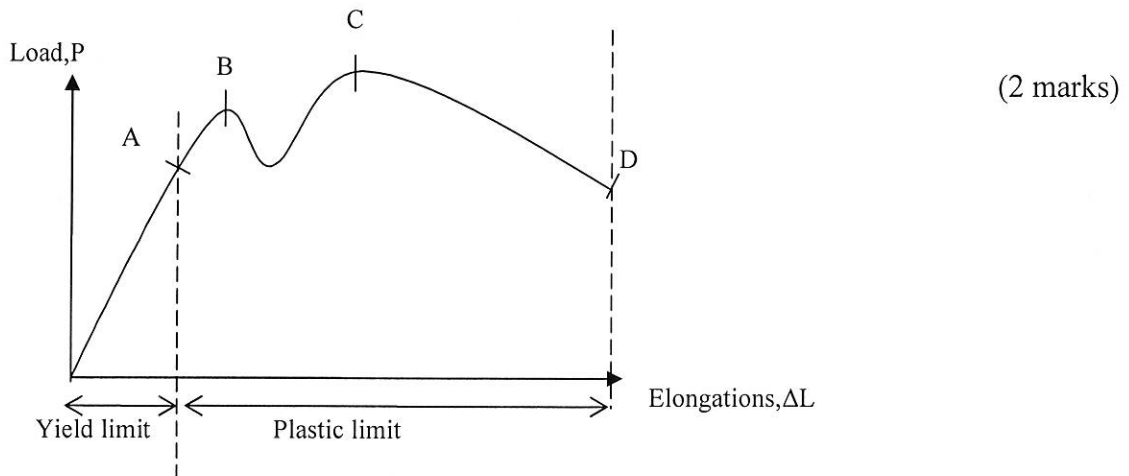

Figure 1(a)
- (a) Figure 1(a) is a resulting curve from tension test. Name points A, B, C, and D shown in the figure.
- (b) Give the meaning of yield limit and plastic limit as indicated in Figure 1(a). (4 marks)